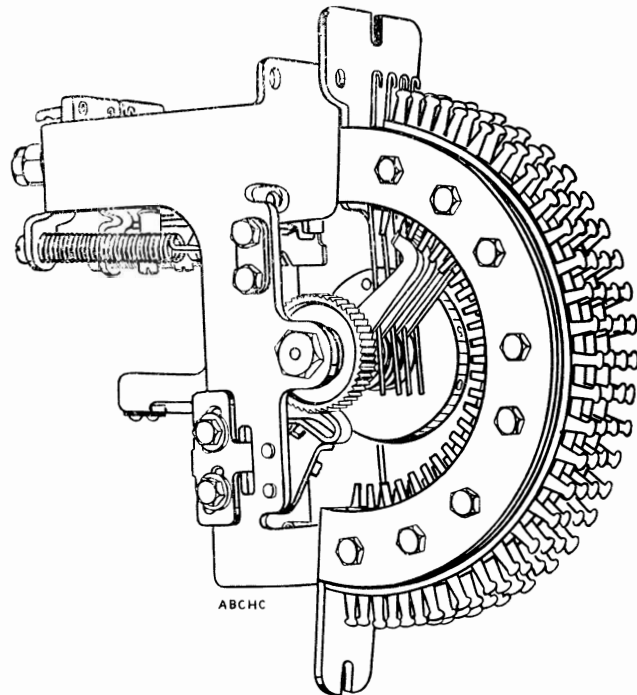

FIG. 6.—REPLACING MECHANISM IN BANK
7. Replacing mechanism in bank.—Set the wipers at the approximate position for the 3rd bank contact, as shown in Fig. 6; work the heels of the wipers over the first bank contacts and push the mechanism well home on the bank. Step the wipers a few times, to ensure that the brushes are running in their respective collector rings, and then replace the mechanism-securing screws.